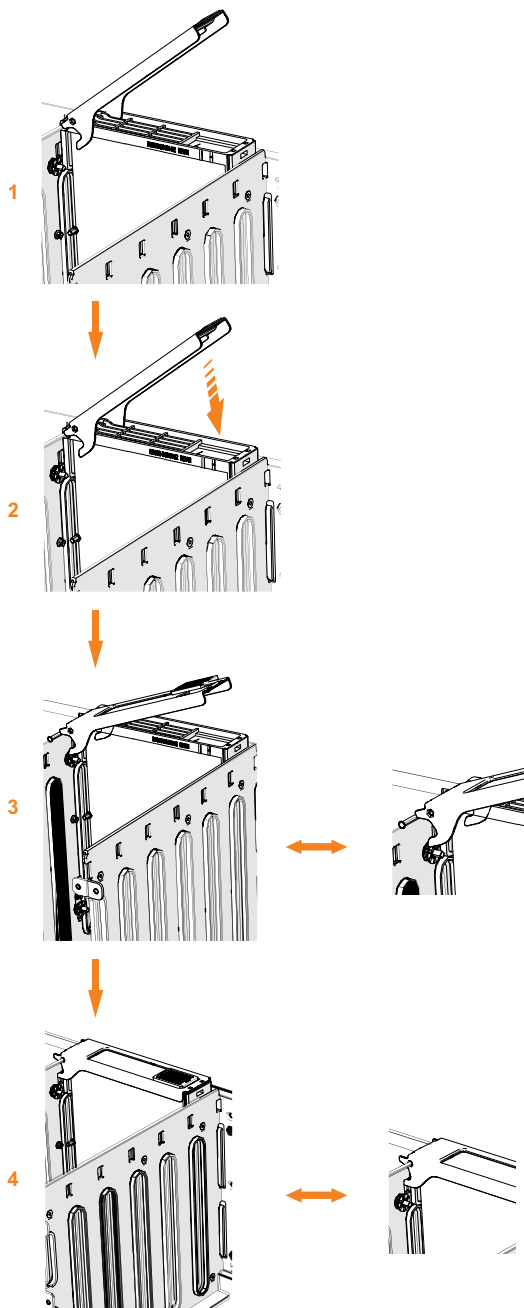

Figure 82. Replace the drive
6. Ensure that the drive handle (**1** in Figure 82 on page 85) of the drive assembly is in the open (unlocked) position.
8. Gently push the drive down until it stops and the bottom of the latch is aligned with the top of the partition. Ensure that the handle is not open more than 45 degrees from the drive carrier. (**2** in Figure 82 on page 85).
9. Rotate the handle down to lock the drive assembly into the chassis (**3** in Figure 82).
11. Ensure that the top toe of the latch is also fully engaged (**4** in Figure 82 on page 85).